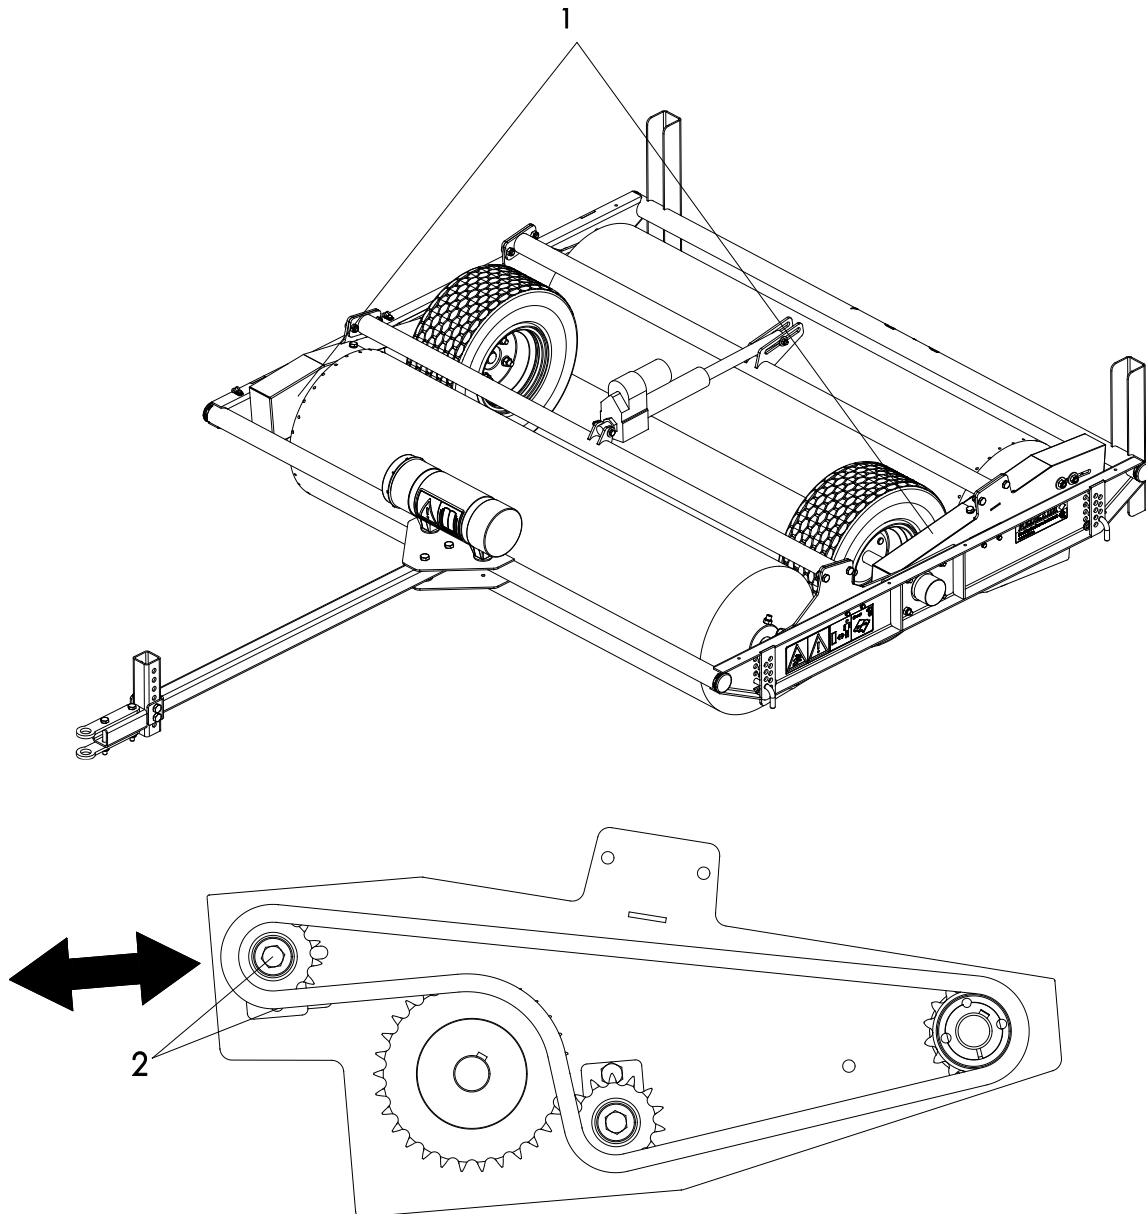

Figure 11
1. Remove the safety guards (1) (Figure 11).
2. Loosen the nuts in the roll and tension the chain (Figure 11).